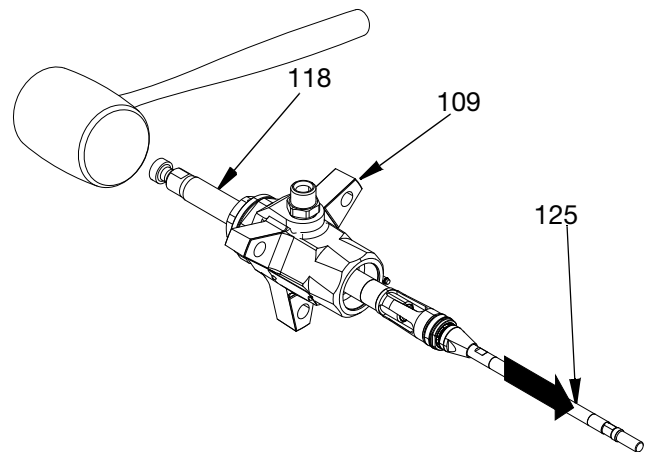

FIG. 11
10. Use a rubber mallet to drive the upper displacement rod (118) and lower shaft assembly (125) out of the outlet housing (109). Inspect shaft surfaces by running a finger over the surface of the shafts and checking for wear or scoring. See FIG. 11.